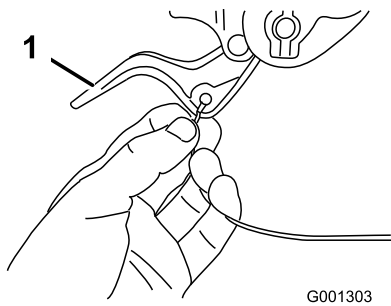

Figure 6
2. Route either the left or right cable end over the lower handle and insert the cable end into the hole in the corresponding wheel clutch lever (Figure 6).